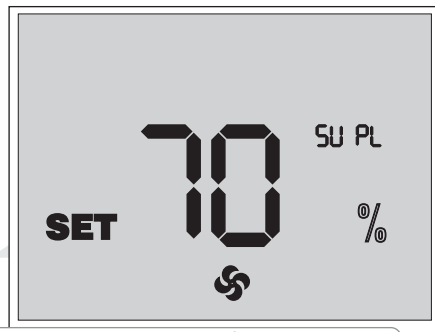

Fig. 13. Fan speed setup
■ To adjust the supply fan capacity press and hold the button  and press the button  to set the fan speed up or the button  to set the fan speed down. Each pressing of the button  and  increases or decreases the supply fan by 1%. If the button  remains pressed the display indicators show the current supply fan speed, fig. 13.